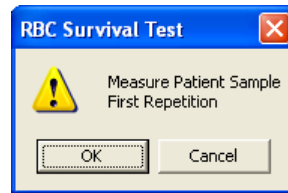

Figure 10-77
6. The screen appears as shown in Figure 10-77, prompting you to measure the patient sample.